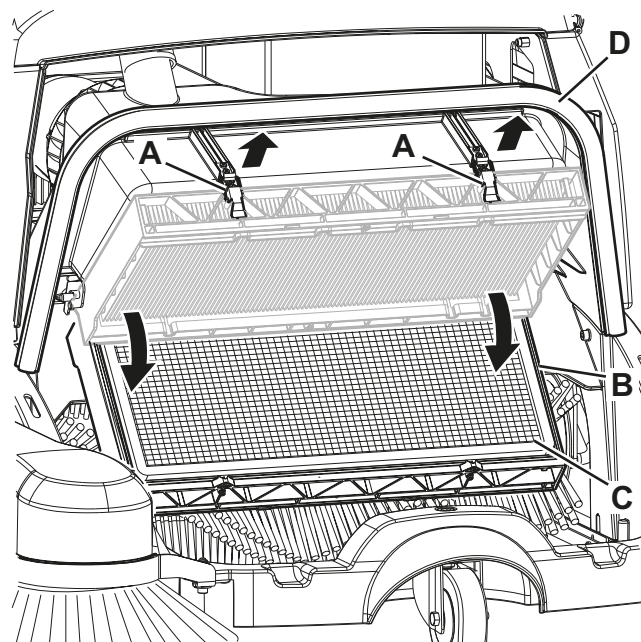
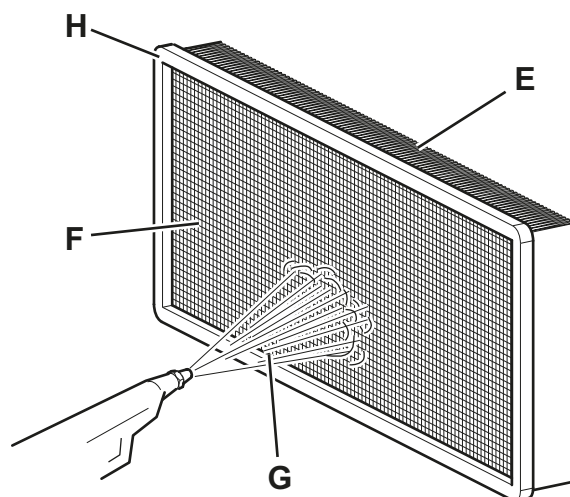

Figure 11
Figure 12
2. Turn the ignition key (2) to "0".
3. Remove the hopper (14).
4. Disengage the levers (A, Fig. 11) and turn the filter holder (B) downwards.
5. Remove the dust filter (C).
6. In an outdoor area, clean the dust filter by shaking it on a level and clean surface, tapping the side (E, Fig. 12) opposite to the wire gauze (F).
7. Complete the cleaning procedure by using compressed air (G) at maximum 87 psi (6 Bar), blowing only from the side protected by the wire gauze (F).
8. Check the filter body for tears. Clean the gasket (H) along its perimeter and check it for integrity. If necessary, replace the filter.
9. If necessary, clean the filter compartment rubber gasket (D, Fig. 11) along its perimeter and check it for integrity. If necessary, replace it.